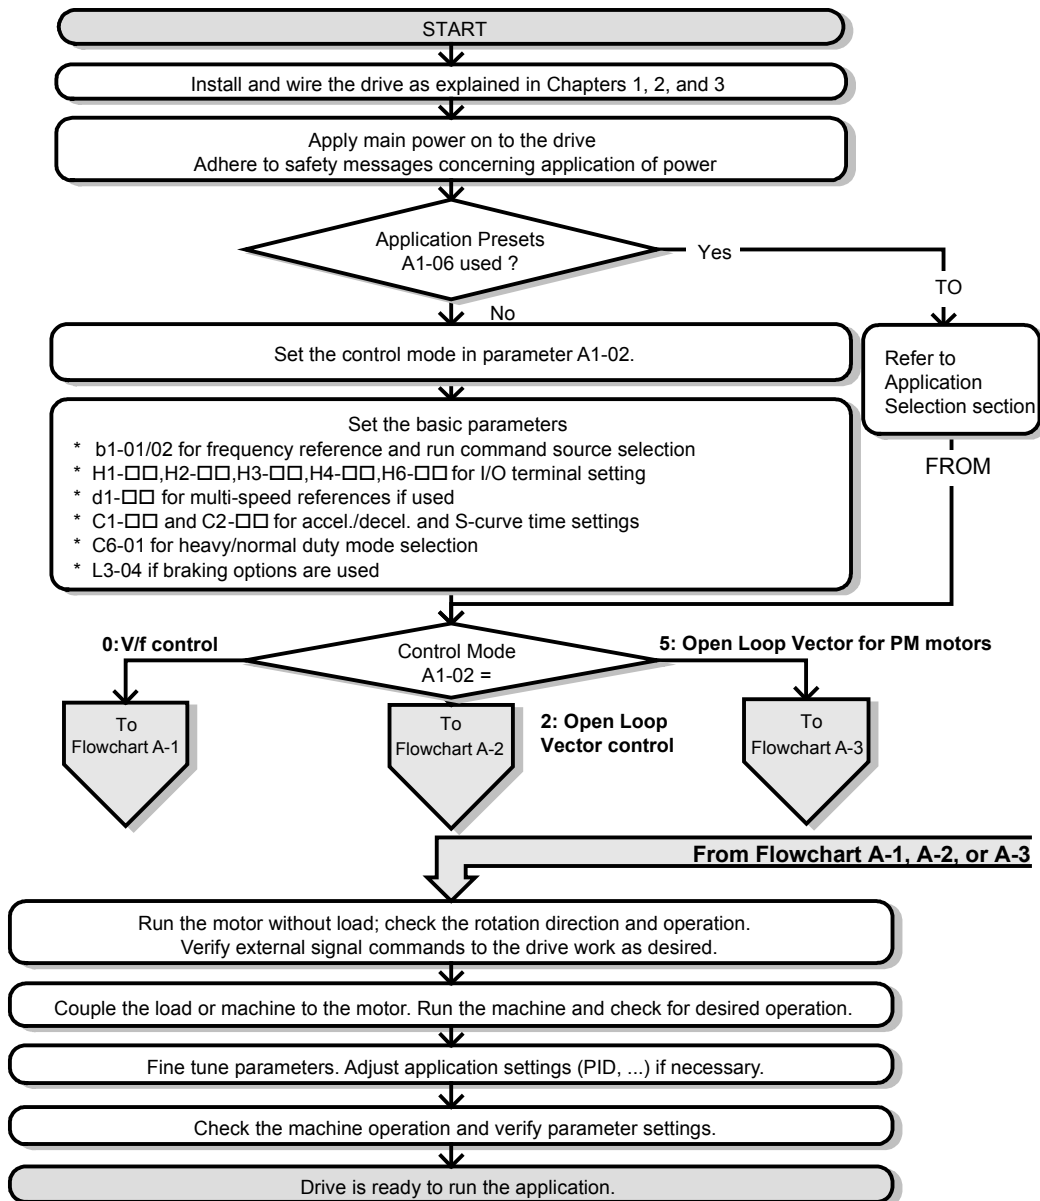

Figure 4.6 Basic Start-up and Motor Tuning
*Figure 4.6*, Flowchart A, describes basic start-up sequence for the drive and motor system. This sequence varies slightly depending on application. Use drive default parameter settings in simple applications that do not require high precision.